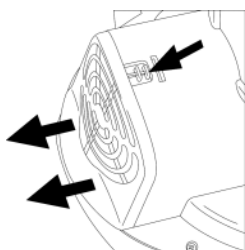

FIGURE 11
- 2) Holding main unit upside-down in your lap, press in and outwards on locking tab (note only left Side Vent Panel has this tab and is removable). While still pressing on tab, pull Side Vent Panel outwards to disconnect it (FIGURE 11).